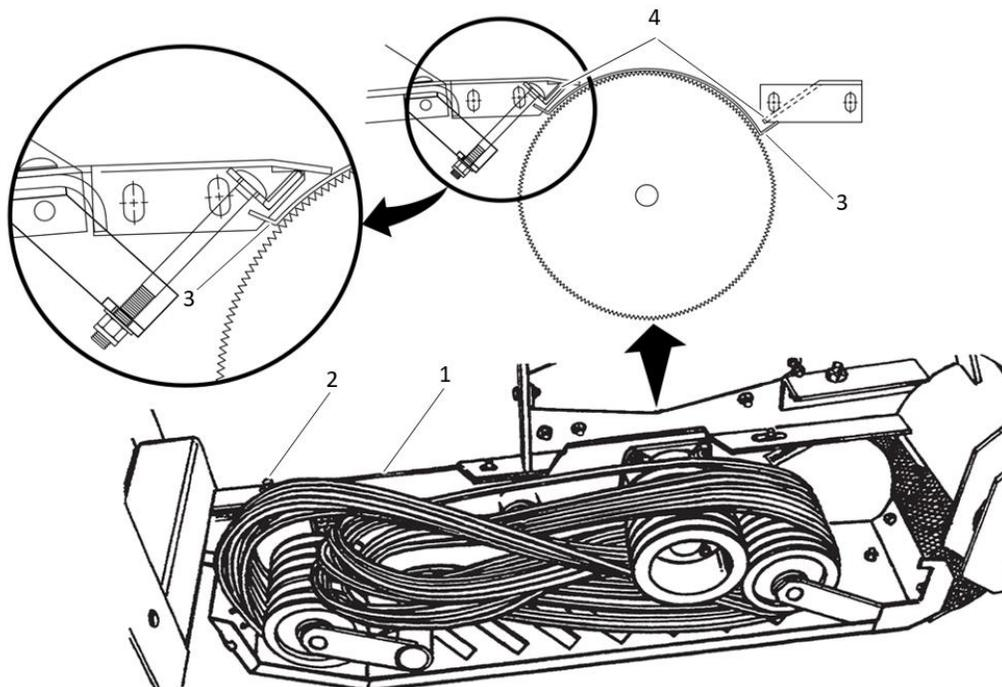

Figure 41 Half-pan alignment
### STEP 10 - FIGURE 41
Lift the processor roll unit (item 1) while making sure the stainless cover (item 3) sits properly **under** the channel half-pans (item 4) as shown in FIGURE 41 HALF-PAN ALIGNMENT. Replace and tighten the frame bolts (item 2) to proper torque (See Table 1, page 22).